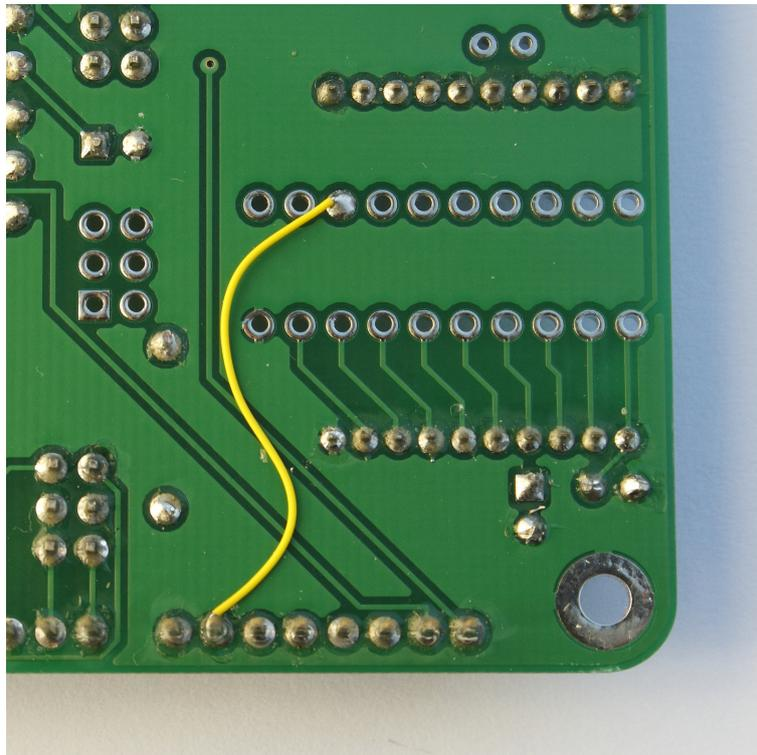

Figure 3.2: Modification to monitor sleep status of the XRF radio module.
21. Modify the PCB by adding a link wire from the XRF ONSLEEP status pin to D23. See figure 3.2.